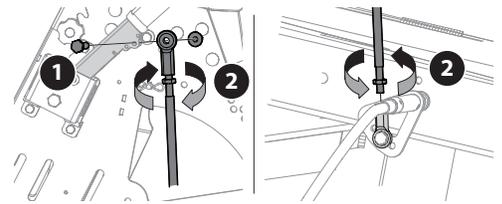

Figure 10
- Place rod end on free end of discharge rod assembly to interior of handle bracket, securing with a hex screw (710-0206) and a flange lock nut (712-04064). See (1) in Figure 10.
- Use hex jam nuts (712-0314) on either end of discharge rod (747-08930) to tighten connection and vary length of the shaft. See (2) in Figure 10.